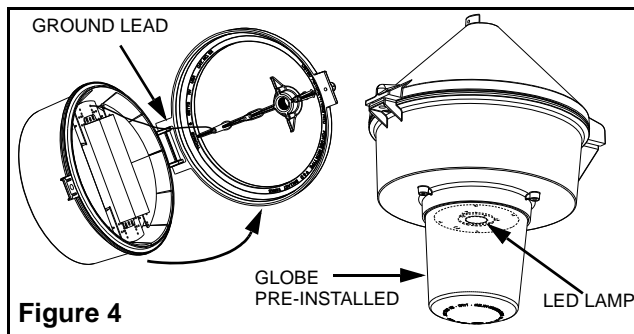

Figure 4
4. Hang the luminaire tank on the luminaire mount hinge (Figure 4).
5. Attach ground bonding lead to supplied grounding screw in luminaire mount (Figure 4). Connect supply wires to luminaire driver leads. Verify that the utility voltage value comes within the AC voltage range printed on the luminaire template: "120 – 277VAC" or "347 – 480VAC". The LED driver module accepts any value of AC voltage within the specified range.